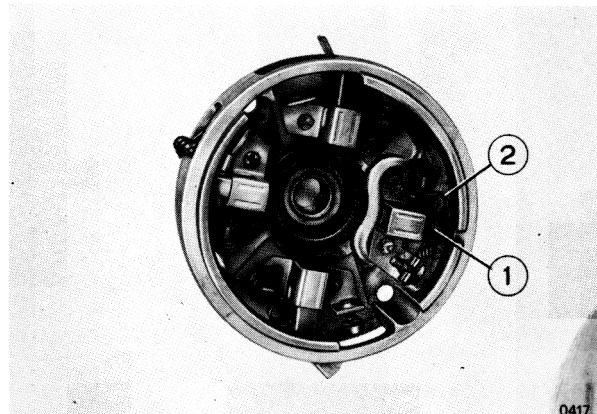

Fig. 14 4/10 Positioning the brushes
- Use the springs (2) to keep the brushes (1) up when mounting them, as shown in the photo.
- Clamp the front support (7) (see fig. 14 4/2) in a lead-jawed vice and remount the armature in the reverse order.